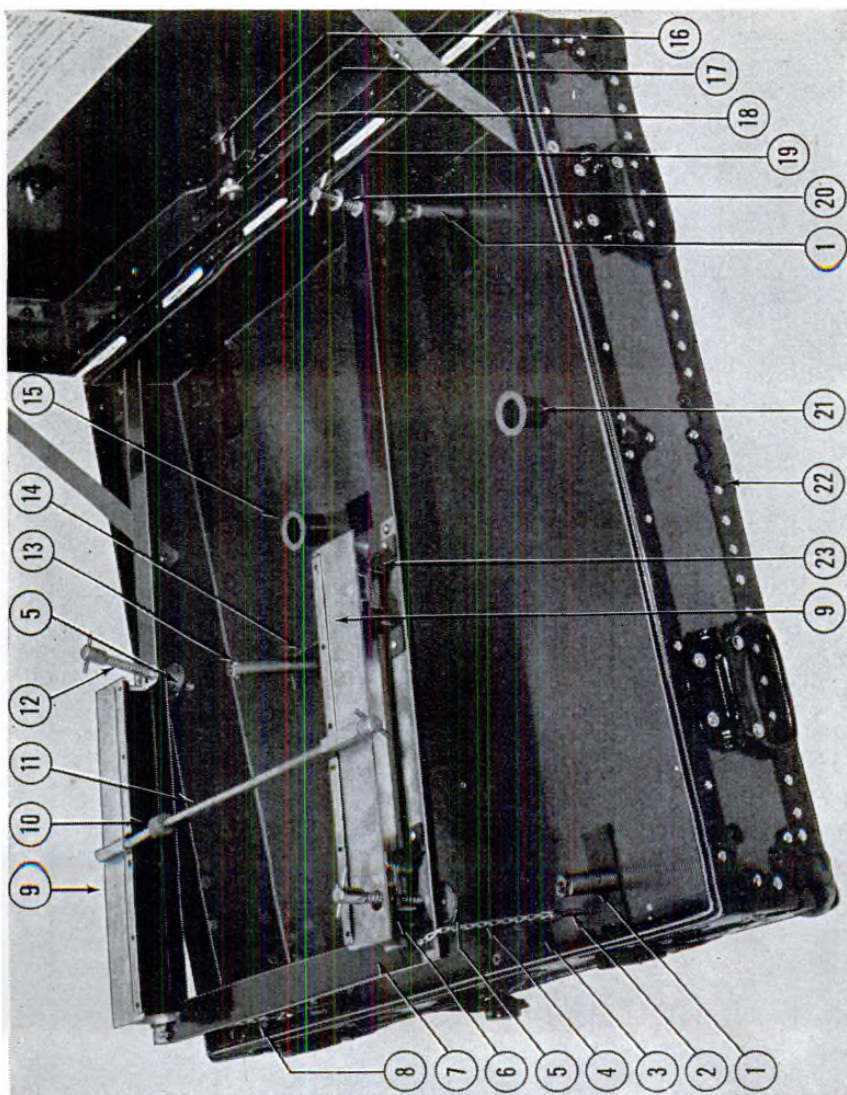

Figure 66. Small trunk, part No. 9R05868.
9. Be sure to secure the screen tie rod assembly figure 66, part 11 to the two screen holders in order to safeguard the screen.